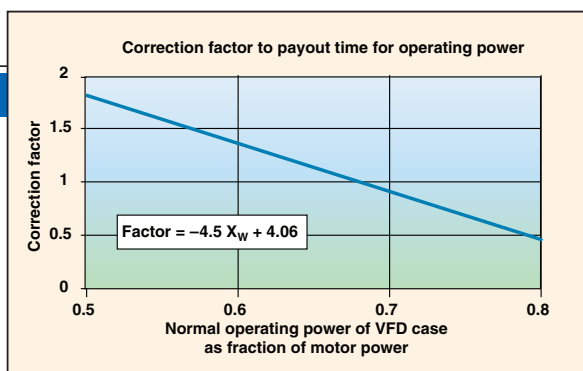

FIGURE 10. A plot of the correction factor to payout time for operating power
in Figure 10 where the x-axis (X_w) is the ratio of the operating power at normal capacity for the VFD case to the nominal power of the motor. The correction factor, which can be up to $\pm 50\%$ on the payout period, is given below in equation form
From Equation (12) (or Figure 10):